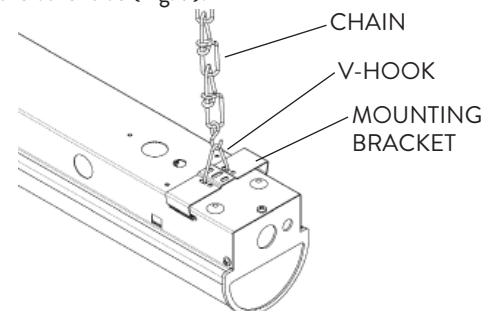

FIG. 9
- 4 Place the Hook on one side of FSLA/2 fixture first, then place the Hook into the other side (Fig. 9).